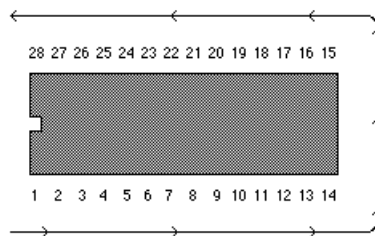

Figure 9
- 5) Look at Figure 9 below. It shows the pin numbering for a 28 pin chip. All chips are numbered in this “horseshoe” fashion. Using this numbering scheme, solder the wire on pin 27 of the ROM to pin 15 of your 74xx175 chip.
- 6) Solder the wire on pin 1 of the ROM to pin 12 of the remaining 40 pin chip, labeled “6821”. See Figure 9 for pin numbering.